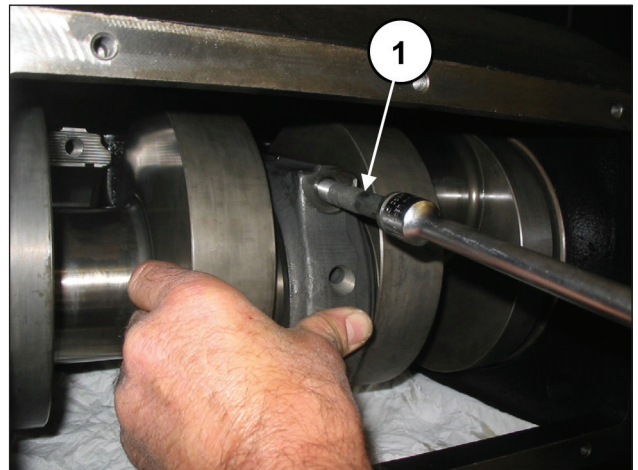

Fig. 60
Fasten the caps to the half-conrods by means of M12x1.25x87 screws (pos. ①, Fig. 60).